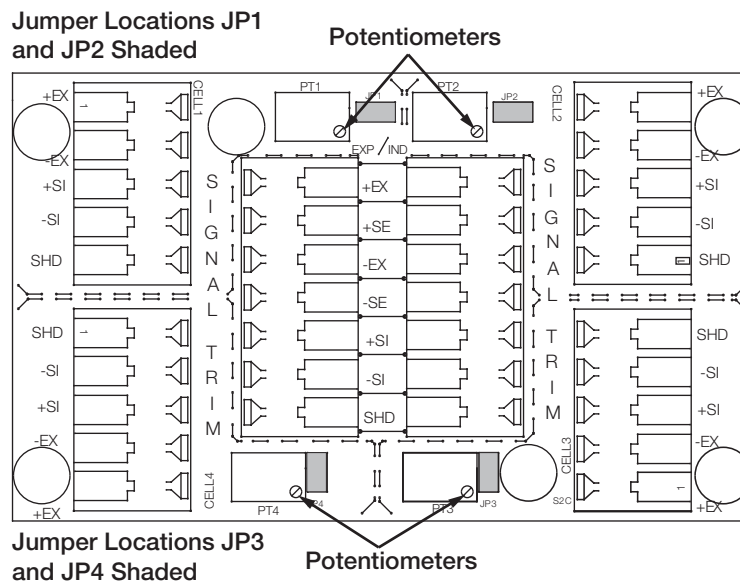

Figure 3-1. Trim Potentiometers
3. Turn all four potentiometers (shaded areas of Figure 3-1) to increase the reading until a clicking sound is heard from each potentiometer. This ensures the maximum signal from each load cell.